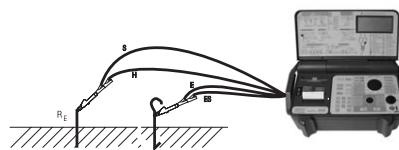

Figure 6.4.1, 2-pole Measurement
- ▶ Switch on UNITEST EURO-EXPERT plus via switch "ON/OFF" (9).
- ▶ Set the measurement range needed by using the function switch (1).
- ▶ Connect the 4-pole test leads to instrument, measurement connectors (17).
- ▶ Connect the test leads with object see figure 6.4.1 or 6.4.2.
- ▶ Press the key "START" (2). The test voltage will be applied to the test object for approx. 2 seconds or is applied as long as the key is held pressed. Immediately on completion of test, the UUT is automatically discharged.